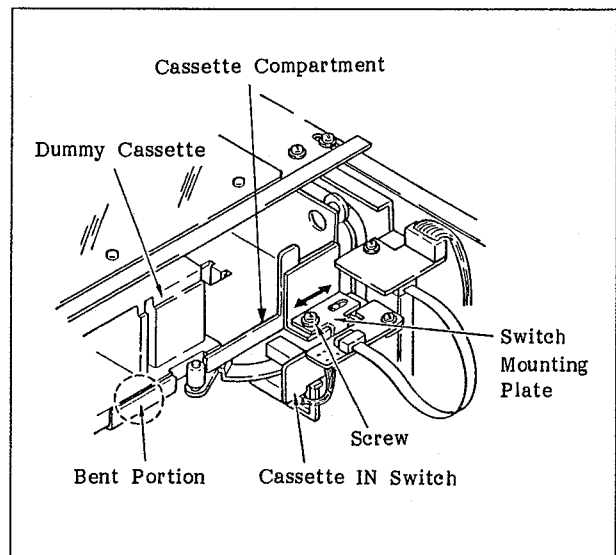

Fig. 6-17 Adjusting the Position of the Cassette IN Switch
14. Press the **TEST**, **F3**(CHECKER), **F1**(CONTINUE), **F3** (C), **4**, **SET**, **F6** (F), **1**, **SET** keys on the control panel in that order to set the machine in the mechanical check mode.
- b. Loosen the attaching screw of the switch mounting plate by a half or one turn. Then, adjust the position of the switch mounting plate by sliding it in the direction of the arrow as shown in Figure 6-17 so that the leftmost bit on the display changes from 1 to 0. Check that the end face of the dummy cassette touches the bent portion of the cassette compartment at this time.
- b. Loosen the attaching screw of the switch mounting plate by a half or one turn. Then, adjust the position of the switch mounting plate by sliding it in the direction of the arrow shown in Figure 6-17 so that the leftmost bit on the display remains 1. Check that the end face of the dummy cassette touches the bent portion of the cassette compartment at this time.